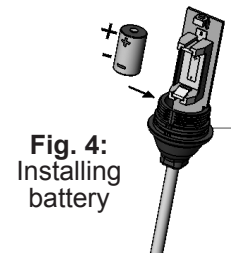

Fig. 4: Installing battery
1. Remove the probe cover (CCW) and install the battery (+ toward the button end, see Fig. 4) then re-install the cover hand tight (CW). See Section 10 for a full description.